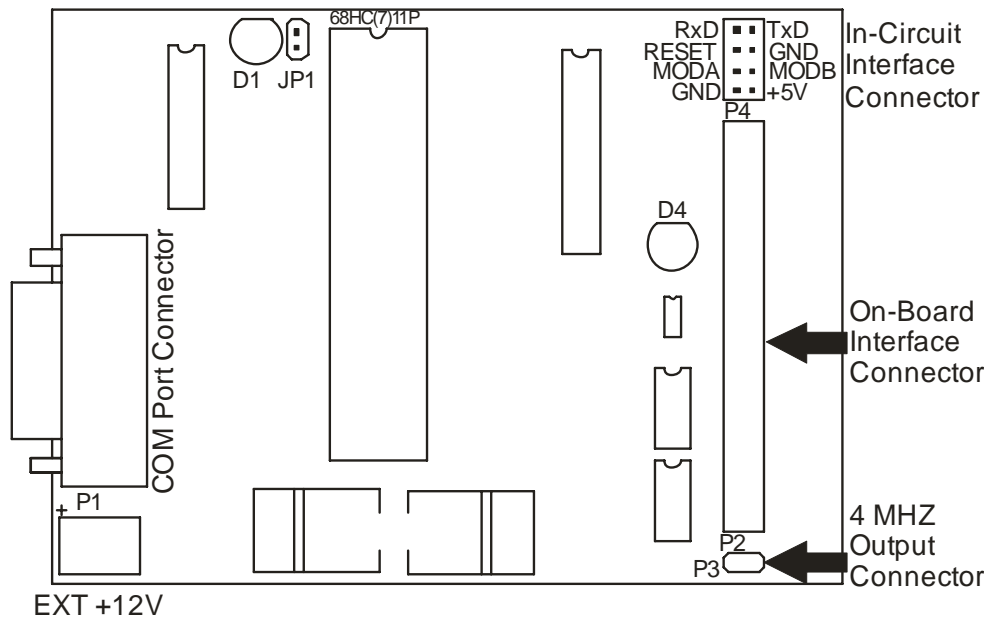

Figure 1. The HC11-Programmer board layout
The HC11-Programmer includes two LED's and mode jumper (Figure 1). LED's indicates programmer state and external power supply voltage (Table 1, 2).
- Insert jumper JP1 (see Figure 1).
- Remove JP1 (see Figure 1).
**Note:** When using In-Circuit programming interface remove adaptor from On-Board interface connector. (see Figure 1).
**Note:** When On-board programming interface used, remove cable from ICP connector (see Figure 1).
- Remove cable from On-Board connector (see Figure 1).
- Attach adaptor to OBP connector with help of cable in according to 1 pin-key (see Figure 1).
- Remove cable from ICP connector (see Figure 1).
- Remove cable from BDM ICP connector (see Figure 1).